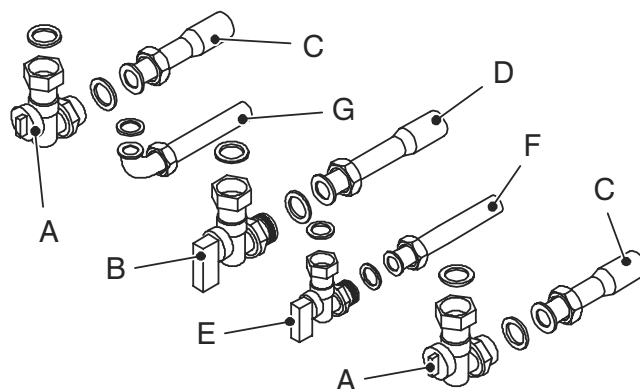

Fig. 6.3
- 4 Fix the c.h. valves A and gas cock B ($\frac{3}{4}$ ") to the boiler using the $\frac{3}{4}$ " gaskets (Fig. 6.3)